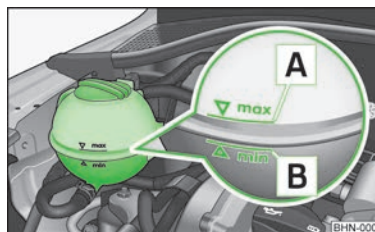

Fig. 100
When refilling, we only recommend you use the same antifreeze written on the antifreeze expansion tank » Fig. 100 on page 130.
- Check the level of coolant in the coolant expansion bottle » Fig. 100. The coolant level when the engine is cold must lie between the **B** (MIN) and **A** (MAX) markings. The level may also rise slightly above the **A** (MAX) marking when the engine is warm.
- Place a cloth over the cap of the coolant expansion reservoir » Fig. 100 on page 130 and unscrew the cap **carefully**.
Do not fill the coolant above the mark  (max.) » Fig. 100 on page 130! Excess coolant heats up and then is forced out of the cooling system through the pressure relief valve in the cap.